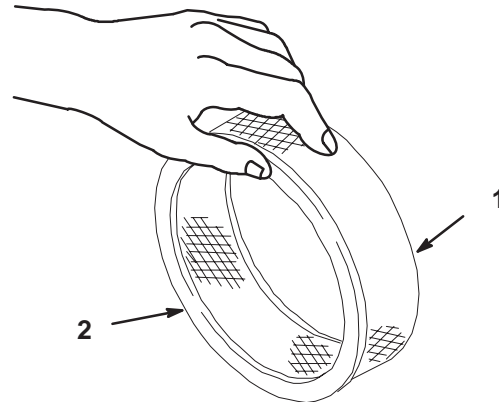

Figure 35
- A. Lightly tap the element on a flat surface to remove dust and dirt (Fig. 35).